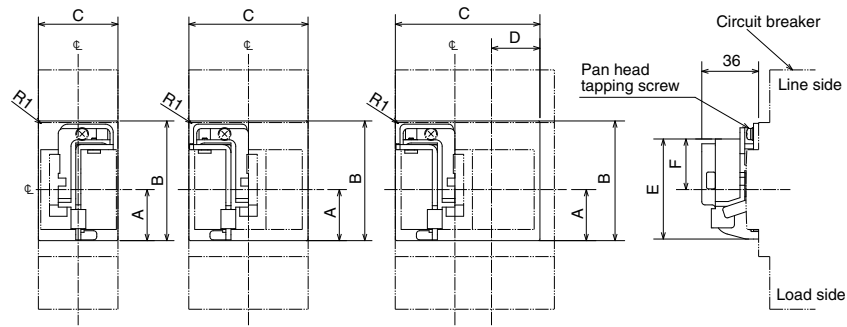

Fig. 5
*2 A, B, C and D in Figs. 5 and 6 are drilling sizes in front plate.